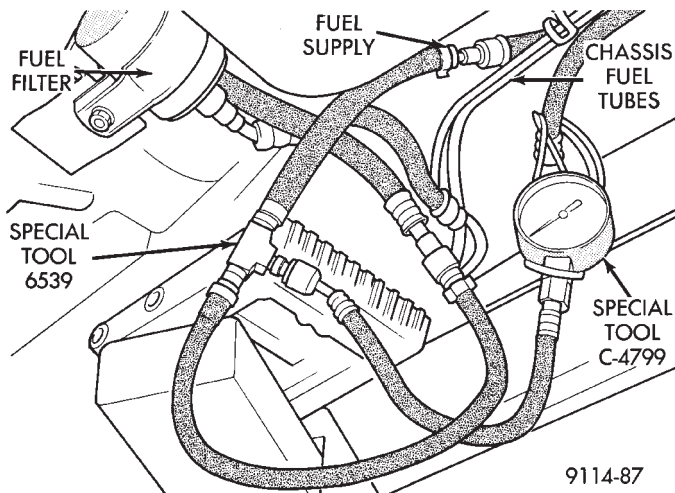

Fig. 5 Fuel Pressure Test
(b) Install Fuel Pressure Gauge C-4799 and Fuel Pressure Test Adapter 6539 in the fuel supply line between the fuel tank and fuel filter at the rear of vehicle (Fig. 5).
- (b) Install Fuel Pressure Gauge C-4799 and Fuel Pressure Adapter 6433 in the fuel supply line (Fig. 5) between the fuel tank and fuel filter.
- If pressure is at least 5 psi higher than reading recorded in step (4), replace fuel filter.
- (b) Install Fuel Pressure Gauge C-4799 and Fuel Pressure Adapter 6433 in the fuel supply line between the fuel tank and fuel filter (Fig. 5).